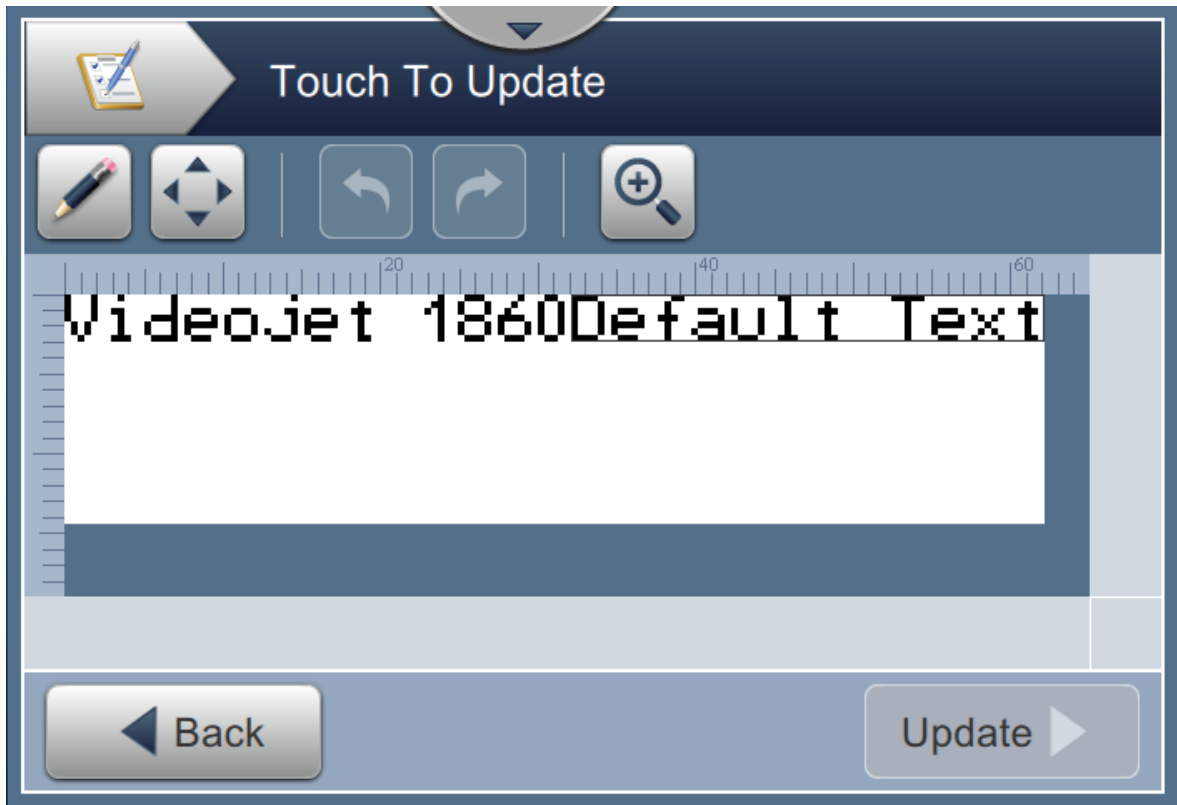

Figure 5-14: Job Editor
3. To edit a user prompted field, touch the  button as shown in Figure 5-14.
5. To move the field location, touch the field and then touch the  button as shown in Figure 5-14.